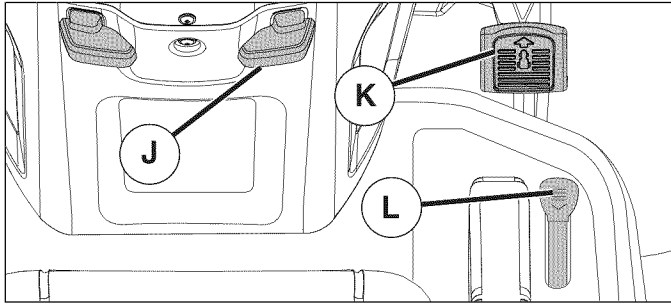

Fig. 20
### TO MOVE FORWARD AND BACKWARD (See Fig. 20)
## TO USE CRUISE CONTROL (J) (See Fig. 20)